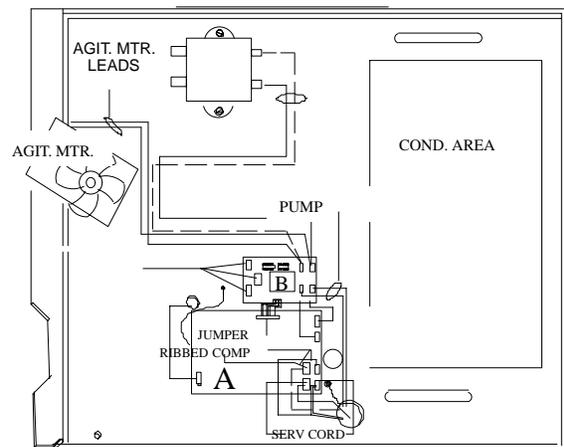

FIGURE 4.
4. Connect agitator motor assembly electrical wires to L1 and L2 terminals on the PC board inside the electrical control box as shown in Figure 4.